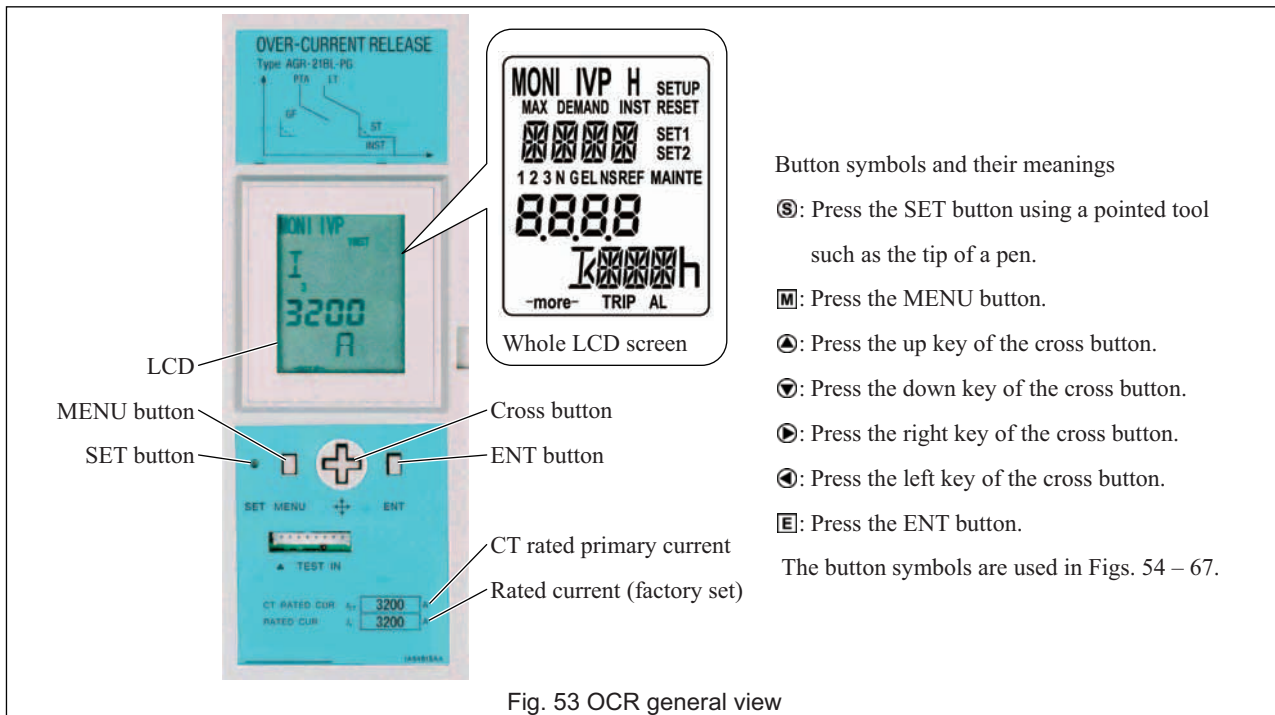

Fig. 53 OCR general view
- 3) The MENU, SET, cross and ENT buttons are used to navigate the LCD screen. Fig. 53 provides the general view of the OCR.